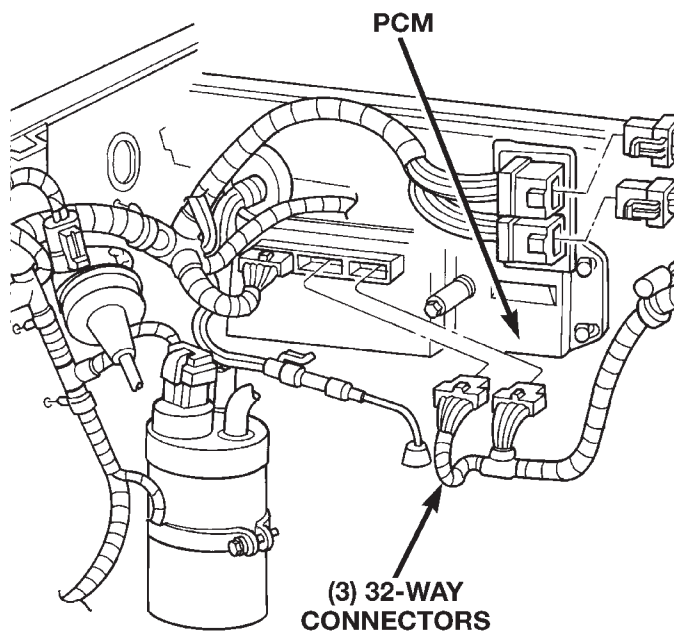

Fig. 9 PCM and Three 32-Way Connectors
(4) Determine that sufficient battery voltage (12.4 volts) is present for the starting and ignition systems.
(5) Crank the engine for 5 seconds while monitoring the voltage at the coil positive terminal:
- If voltage remains at or near battery voltage during the entire 5 seconds, turn the key off. Remove the three 32-way connectors (Fig. 9) from the PCM. Check 32-way connectors for any spread terminals or corrosion.